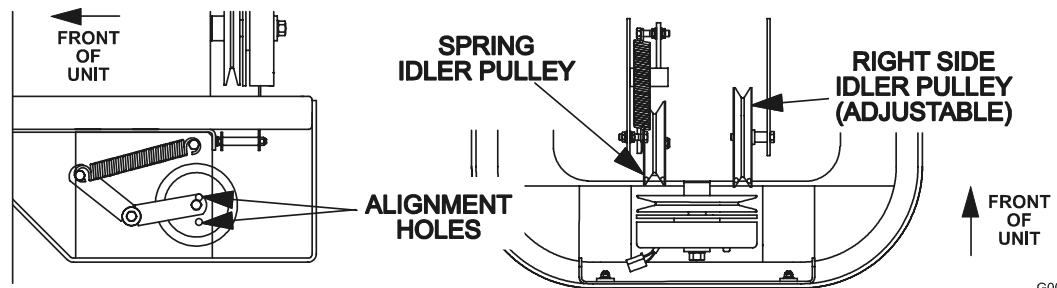

FIGURE 13
- b) Check to make sure the center of the bolt head in the center of the spring loaded pulley, on left side engine deck support, is positioned between the centers of the two alignment holes in the left support plate (See Figure 13). It is necessary to adjust the belt tension when the center of the bolt head is at or below the center of the bottom alignment hole.